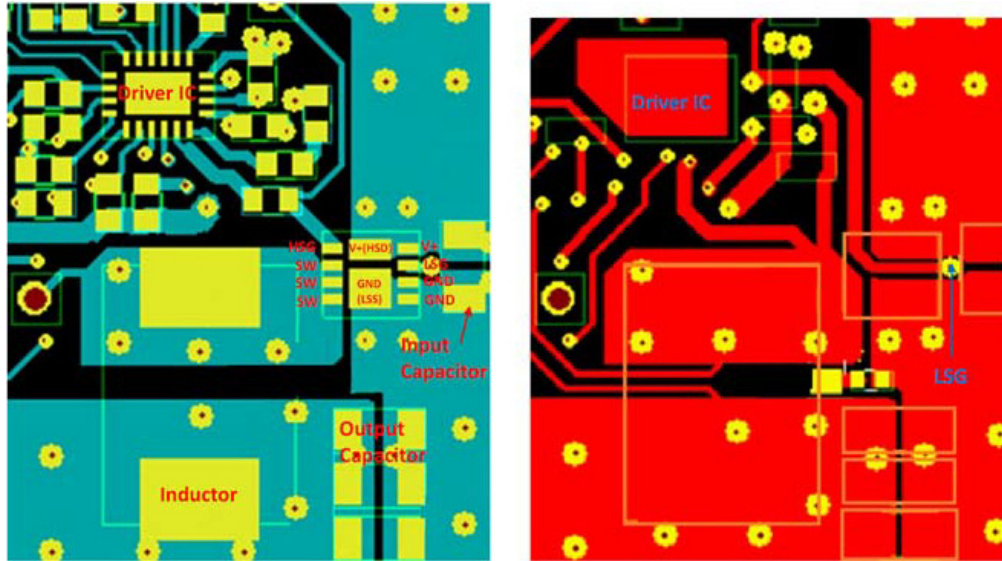

Figure 31. Top/Component (Green) View and Bottom (Red) PCB View
Figure 31 shows an example of a well designed layout. The discussion that follows summarizes the key features of this layout.
transients. The trace should be short and wide to enable a low resistance path and to minimize the size of the noise region. Care should be taken to minimize coupling of this trace to adjacent traces. The layout in Figure 31 shows a good example of this short, wide path.
- The Power Clip has very good Junction–PCB heat transfer from all power pins. It has much better heat transfer Junction–GND (LSS) than traditional dual FET packages. In most cases, board ground will be the most effective heat transfer path on the PCB. Use a large copper area between GND / GND(LSS) PAD pins and board ground. To ensure the best thermal and electrical connection to ground, we recommend using multiple vias to interconnect ground plane layers as shown in Figure 31.